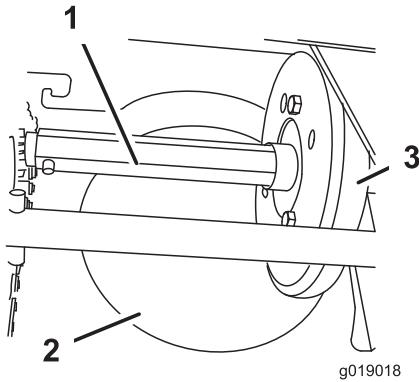

Figure 45
Lightly lubricate the hex shaft yearly with automotive engine oil (Figure 45).
**Important:** Do not get oil on the rubber wheel or the steel friction pulley because the traction drive will slip (Figure 45).